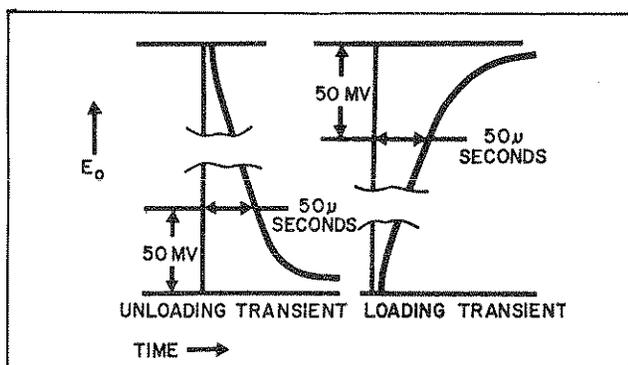

Figure 5-2. Transient Recovery Waveform Diagram
e. Recovery time on the oscilloscope display should not exceed 50μs as shown in Figure 5-2.